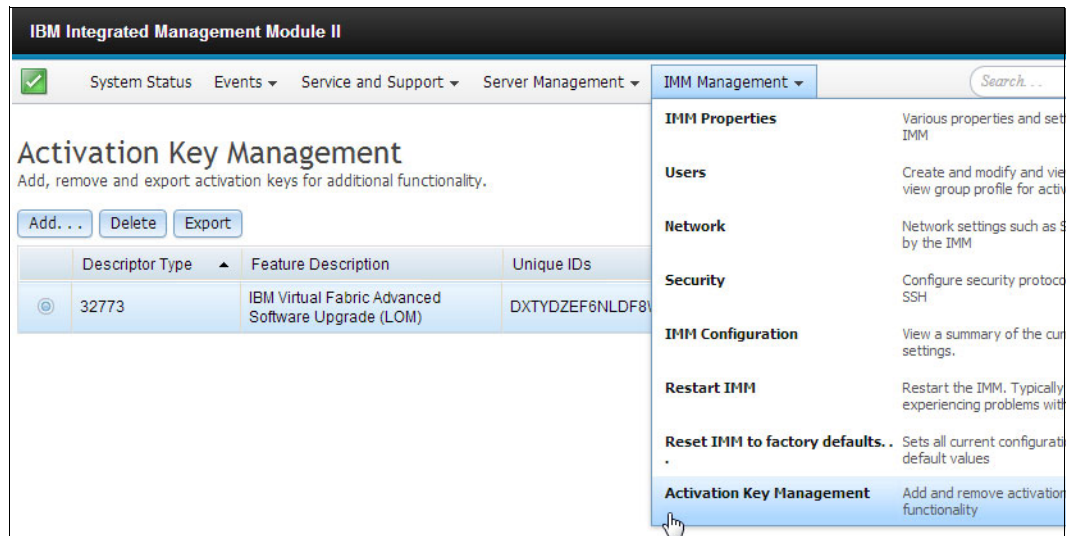

Figure 3-10 IMM2 Activation Key Management menu
1. Log in to the IMM, click **IMM Management** → **Activation Key Management**, as shown in Figure 3-10.